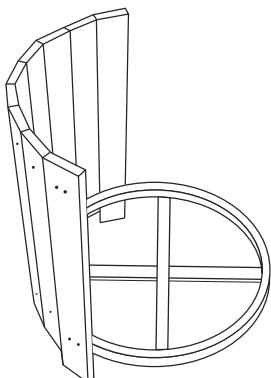

Figure 2
- Fasten 5 of the 32" resinwood slats then fasten another 33" resinwood slat. (See Figure 2)